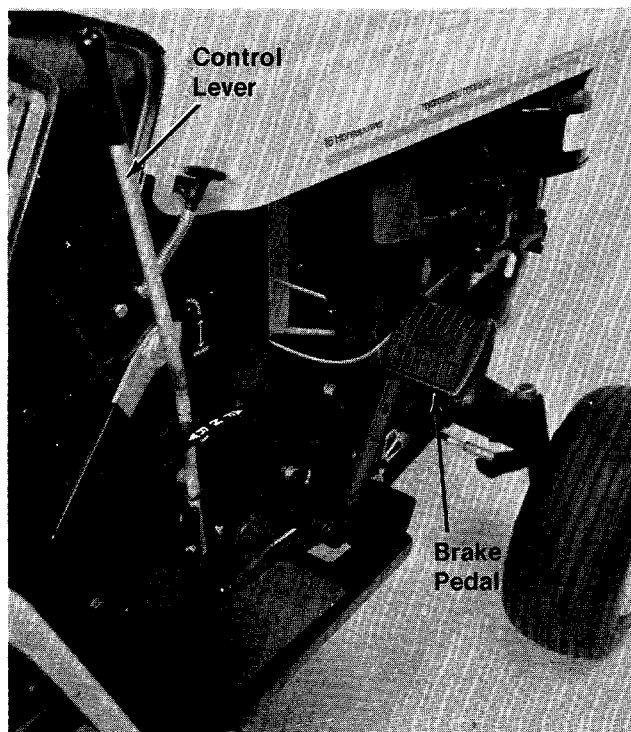

FIGURE 12.
The brake pedal is located on the right side of the tractor. Depressing the brake pedal operates the brake. It is used for emergency stopping only. When you depress the brake pedal the Control Lever will return close to the neutral position. The Control Lever is used for normal stopping. (See figure 12.)
The Control Lever is used to regulate the ground speed of the tractor. Moving the Control Lever to its extreme position makes the tractor travel faster. Moving the Control Lever forward (F) moves the tractor forward, moving the Control Lever backwards (R) reverses the tractor. The Control Lever is used to regulate the ground speed of the tractor. (See figure 12.)